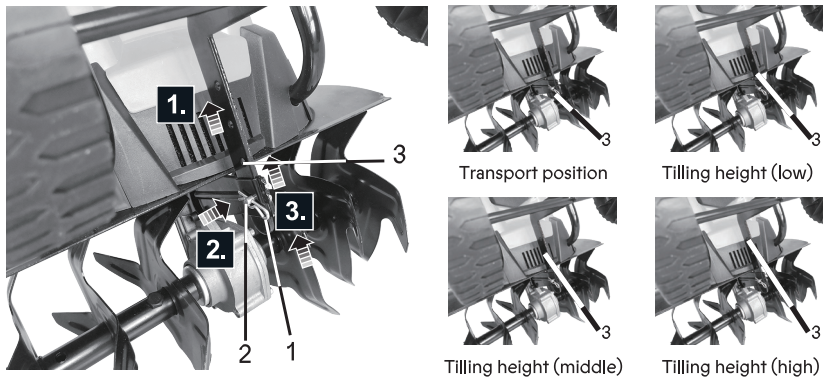

Fig. 9
1. Pull out the cotter pin (1) from the hole of lock bolt (2) using a long nose plier for assistance (Fig. 9, step 1).
2. Push the lock bolt (2) off the mounting holes of wheel bracket (3), and keep them secure to avoid loss (Fig. 9, step 2).
3. Slide the wheel bracket (3) upward or downward to the desired position (Fig. 9, step 3).
4. Align the mounting holes of the wheel bracket (3), and reassemble the lock bolt (2) and cotter pin (1).